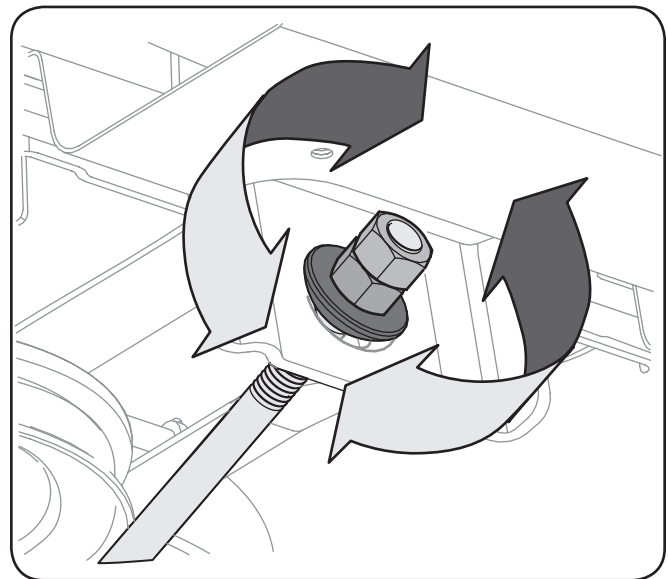

Figure 6-6
5. To raise the front of the deck, remove the end cap, loosen the outer nut then tighten (thread inward) the nut against the front hanger bracket. See Figure 6-6. When proper adjustment is achieved, re-tighten the outer nut and replace the end cap.
6. To lower the front of the deck, remove the end cap, loosen the outer nut then loosen (thread outward) the nut, away from the front hanger bracket. See Figure 6-6. When proper adjustment is achieved, re-tighten the outer nut and replace the end cap.